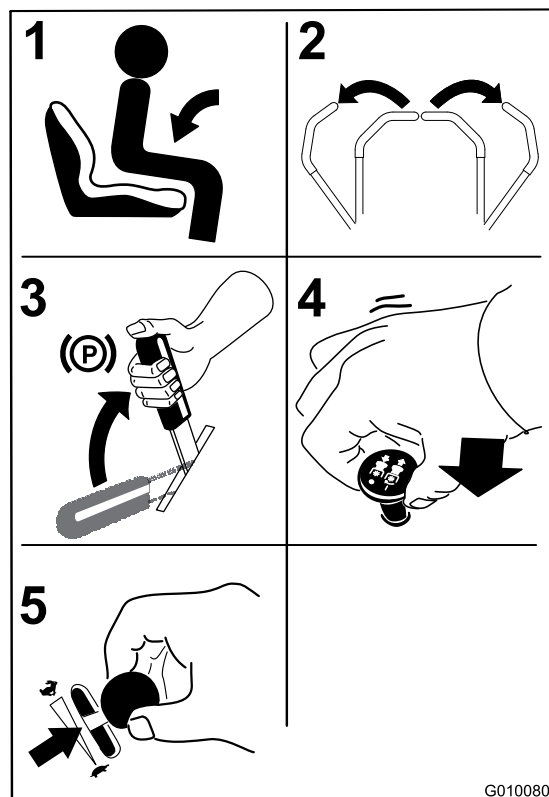

Figure 15
1. Sit down on the seat (Figure 15).
2. Move the motion controls outward to the neutral lock position (Figure 15).
3. Set the parking brake (Figure 15); refer to Setting the Parking Brake.
4. Move the blade control switch (PTO) to the Off position (Figure 15).